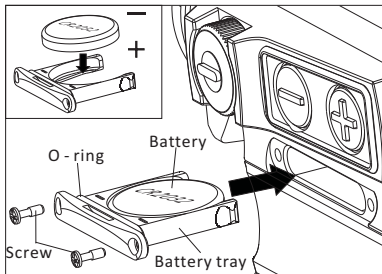

Fig 2-2
2) Battery installation(Fig2-2):